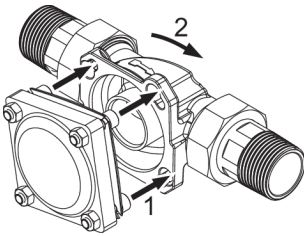
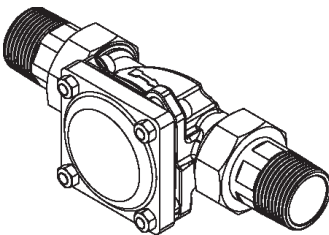

Fig. 3: Placing and engaging the device
Fig. 4: Device connection engaged
1. Insert the heads of the four flange screws through the bayonet holes on the rotary flange fitting (see Figure 3).
2. Turn the appliance in clockwise direction up to the stop (see Figure 3 und Figure 4).